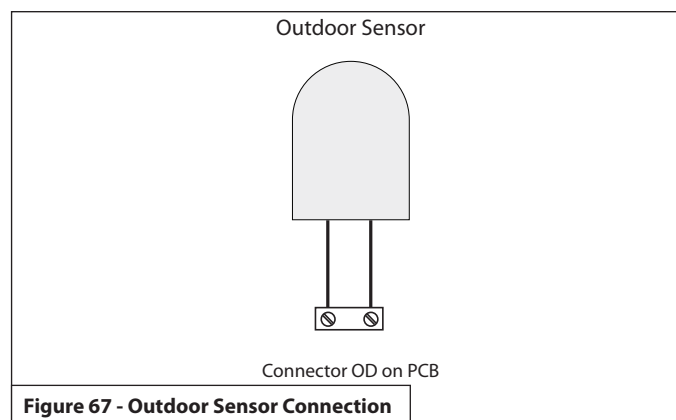

Figure 67 - Outdoor Sensor Connection
6. Open the control panel cover to have access to the main PCB. See Figure 67.